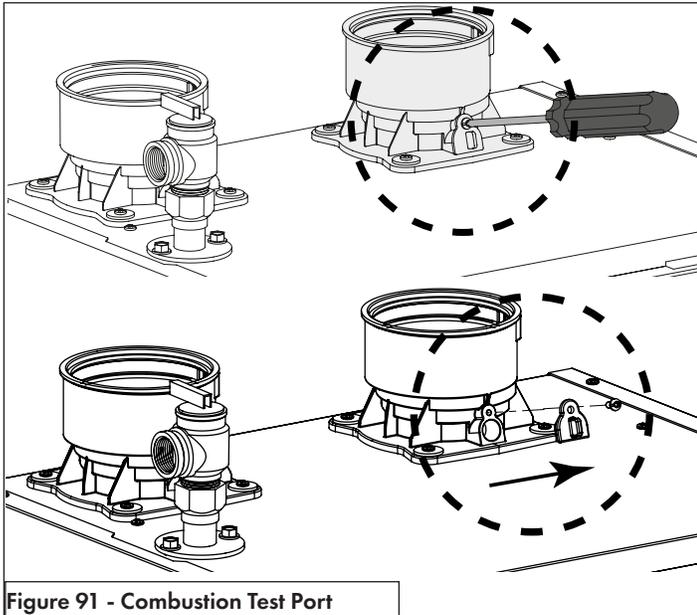

Figure 91 - Combustion Test Port
5. Reinstall the combustion test port - see Figure 91.